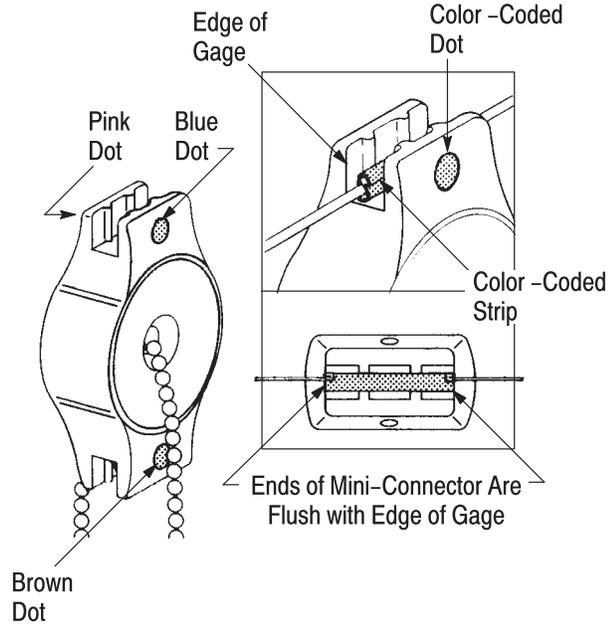

Figure 5
1. Match the color-coded stripe of the mini-connector with the color dot on the crimp height gage, and insert the mini-connector into the gage. See Figure 5. Make sure that both ends of the mini-connector are flush with the edges of the gage.